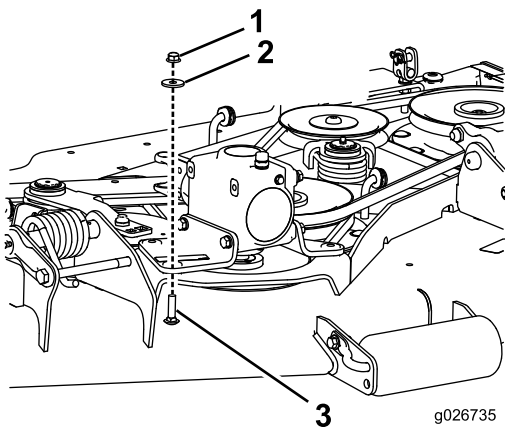

Figure 4
1. Remove the nuts and washers from the carriage bolts that secure the front of the gear box mounting brackets to the mower deck (Figure 4).